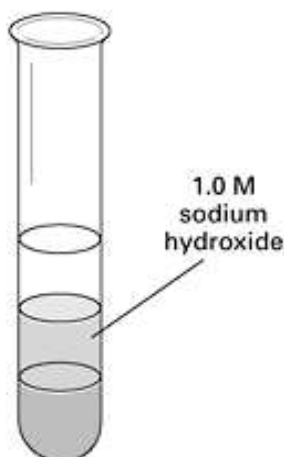

Figure 2
5. Add 1.0 M sodium hydroxide (NaOH) up to the second mark on the test tube, as shown in **Figure 2**.